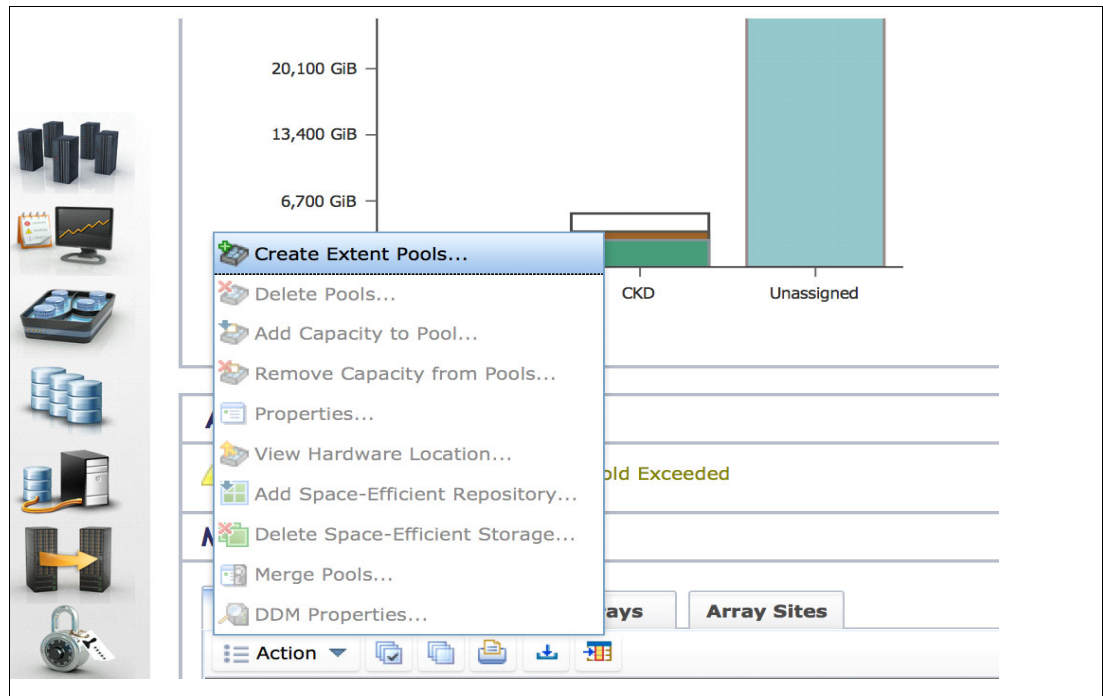

Figure 6-8 Selecting Create Extent Pools option
3. We select **Action** → **Create Extent Pools**, as shown in Figure 6-8.